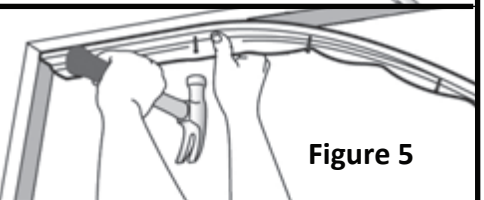

Figure 5
Step 5: Holding the seal in place (the edge with the flap should be flush with the inside of the jamb) (Fig 5 & 6), hammer the fasteners partially into the jamb. This will allow for slight adjustments later.